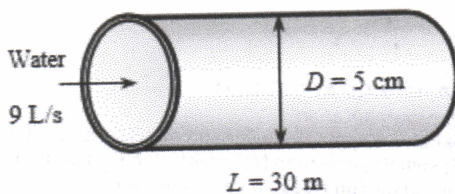

FIGURE Q4 (c)
- (c) Water at 10°C ($\rho = 999.7 \text{ kg/m}^3$ and $\mu = 1.307 \times 10^{-3} \text{ kg/m} \cdot \text{s}$) is flowing steadily in a 5 cm diameter, 30 m long pipe horizontal pipe made of stainless steel at a rate of 9 L/s as shown in **FIGURE Q4 (c)**. Determine: